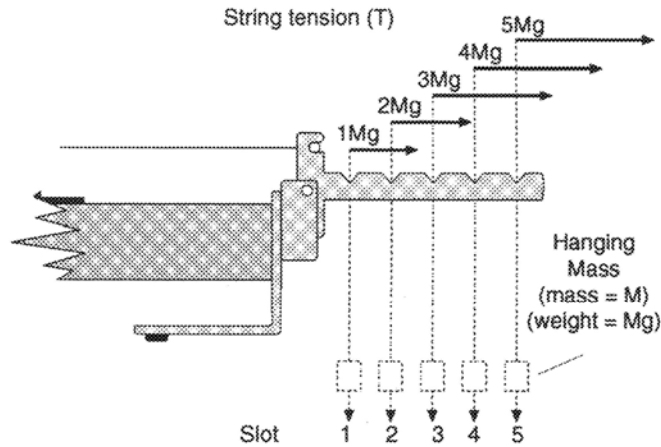

Figure 11.3
- 1.) Start with the bridges 60 cm apart. Use any of the included strings and hang a mass of approximately 1 kg (being sure to include the mass of the hanger itself) from the first slot of the tensioning lever (see Figure 11.3). Adjust the string adjustment knob
- 1.) Replace the wire on the Sonometer with a color coded unknown wire. Then with the set up the same as in the previous section measure the *fundamental harmonic*,  $f_0$ , using 5 different tensions. Vary the tension by keeping the mass the same, but changing the location of the mass on the tensioning lever (see Figure 11.3). Change the string adjustment knob each time you move the mass so that the tensioning lever is always horizontal.